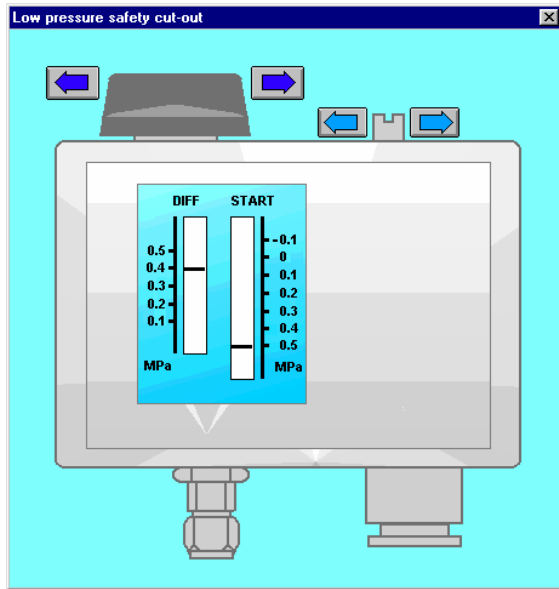

Fig. 4 Low pressure safety cut-out diagram /LPC/
- low pressure safety cut-out diagram LPC /fig. 4/,